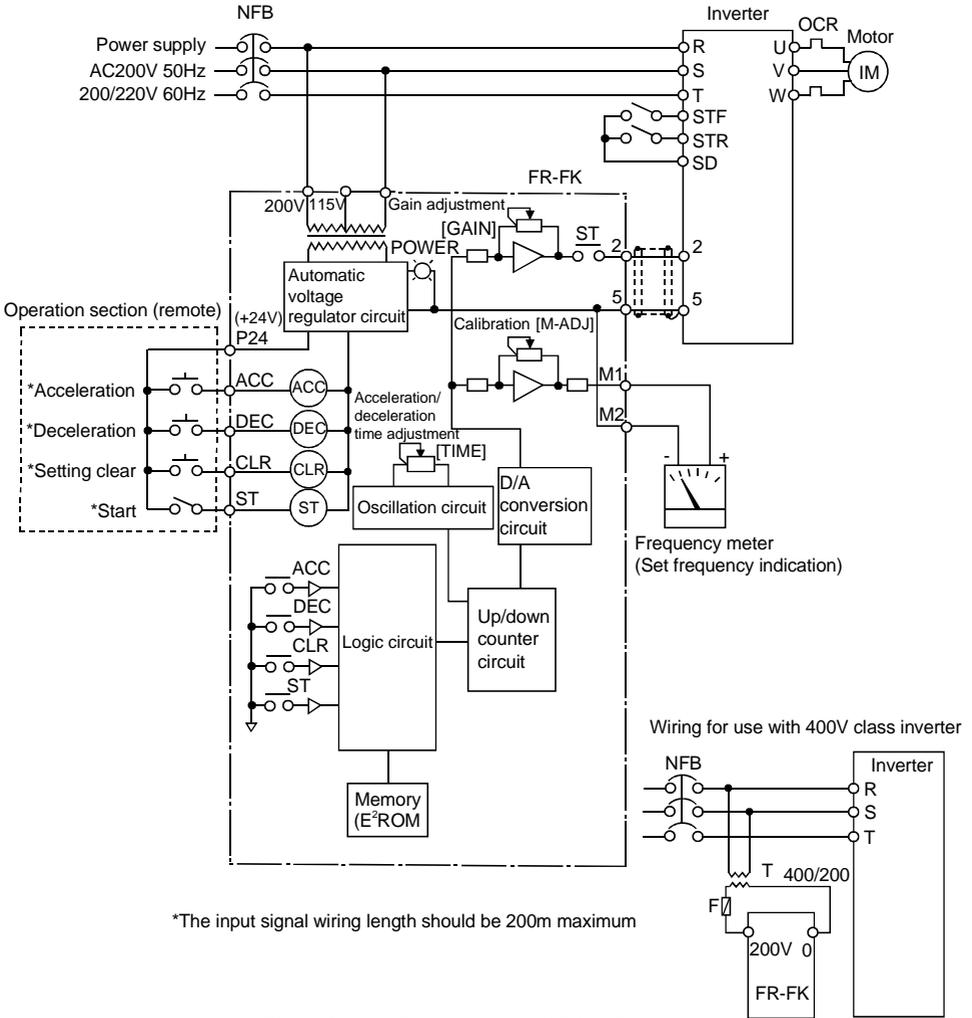

Fig. 3 Circuit Structure and Wiring Example
- (2) You can use a power supply of either single-phase 200V or 115V. When using a 200V power supply, wire it across terminals 200V-0. When using a 115V power supply, wire it across terminals 115V-0. Note that wrong wiring may burn the internal transformer. (Refer to Fig. 3 Wiring Diagram.)
- (3) When relay contacts are required in the signal line, connect two micro-current switching relay contacts in parallel (or a twin contact) to prevent a contact fault.
- (4) Use twisted or shielded cables as signal cables and run them away from the power cables.